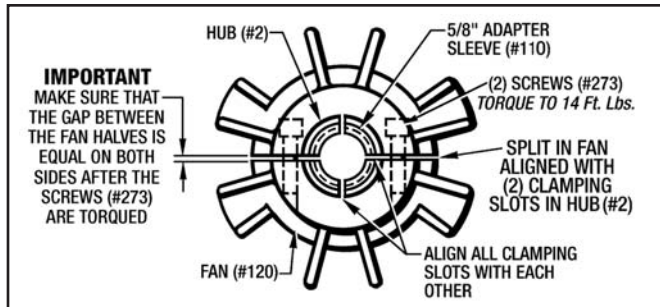

Figure 3.2 - Aligning Quill Clamping Slots (MSB2)
(See Figures 3.2 and 3.3)
1. If you have a 5/8" Dia. motor shaft then there will be a 5/8" Adapter Sleeve (#110) in the bore of the Hub (#2). Make sure the Quill Locking Slots are all aligned with each other as shown in Figure 3.2.
Also if you have a 7/8" Dia. motor shaft, you won't have the Adapter Sleeve (#110), but two of the Quill Clamping Slots in the Hub (#2) has to be aligned with the split in the Fan (#120) as shown in Figures 3.2 and 3.3.
4. Evenly torque the (2) Screws (#273) in the Fan (#120) to **14 Lb. Ft.** Make sure that both gaps in the Fan (#120) are equal as shown in Figure 3.2.